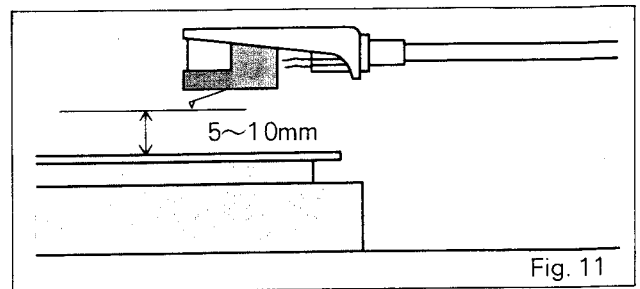
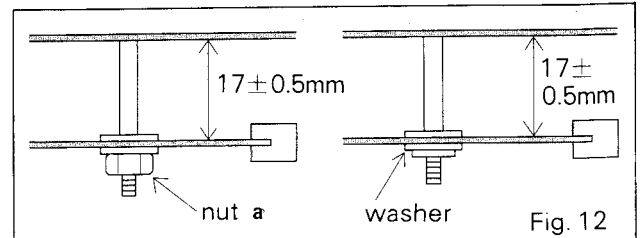
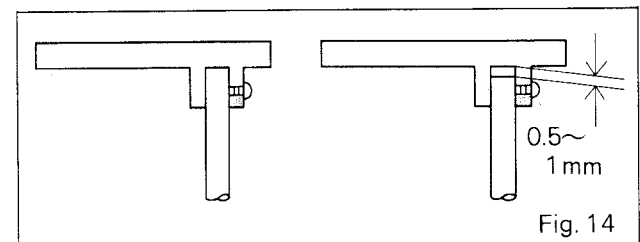

Fig. 11
Fig. 12
Fig. 14
Adjust the height from the record surface to the stylus point in the following order so that it conforms to the dimensions shown in Fig. 11 during auto return:
- (a) Turn the nut **a** of the return plate support and adjust the mounting dimensions of the return plate. For the fixed type, insert a plain washer ($4.7 \phi \times 10 \phi \times 0.5 t - 0.3 t$) and then make this adjustment (Fig. 12).
- (c) If the gap is not within the dimensions specified in Fig. 11, turn the nut **a** in Fig. 12 and make another adjustment.
- (d) If the gap between the record surface and stylus point does not yet fall within the dimension specified in Fig. 11, return the nut **a**, in Fig. 12 into the original position, slightly loosen the arm support attaching screw, fix the arm support about 0.5 – 1 mm higher, and make gap adjustment as specified in Fig. 14.
(2) Manual Up